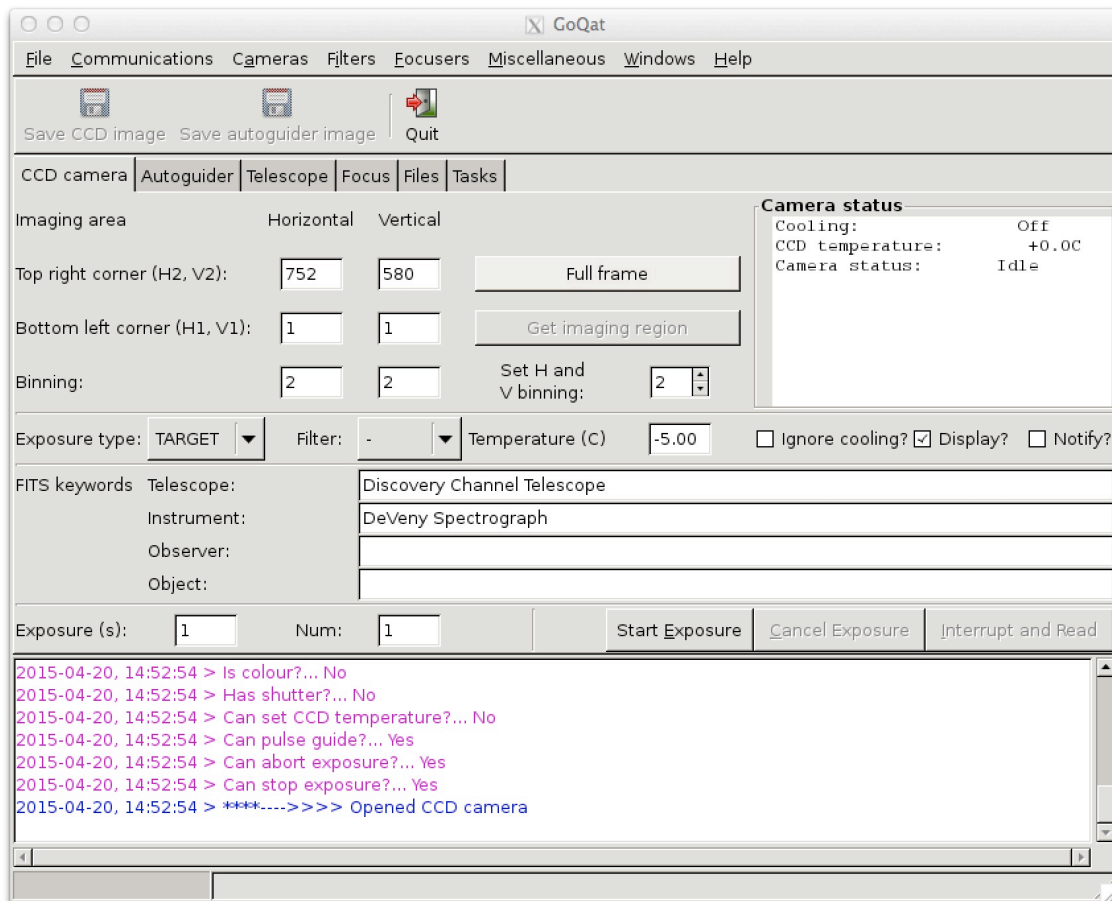

Figure 1. GoQat camera software interface.
- iii. In the GoQat GUI (figure 1):